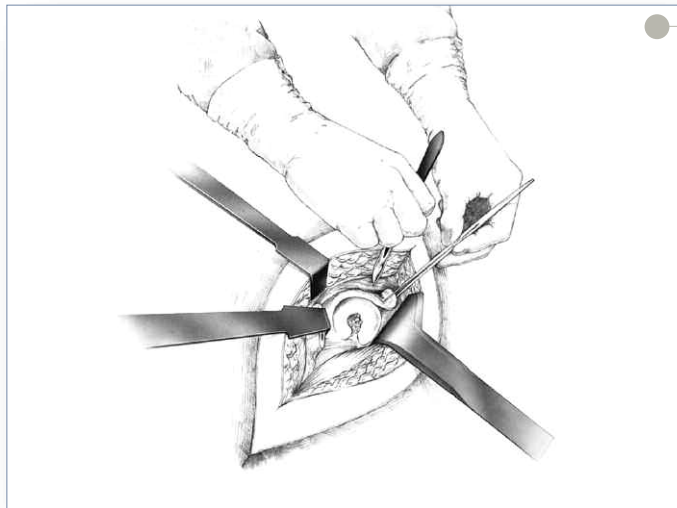

Figure 1
- ▶ Stryker Orthopaedics' Femoral and Wing Retractors can be utilized to gain acetabular exposure (**Figure 1**). With the acetabulum exposed, bony defects can be identified. If necessary, bone grafting options may be considered prior to reaming.